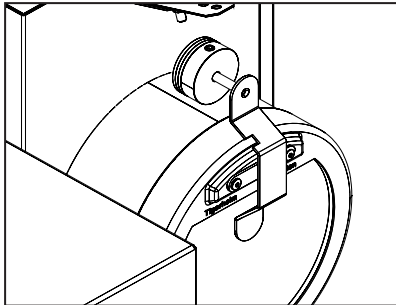

Figure 10-12: Draught stabiliser arm
- To decrease draught –move the weight closer to the damper. Refer to Figure 10-12.
- Secure by inserting a flat bladed screwdriver into the slot and twisting it. Refer to Figure 10-12.